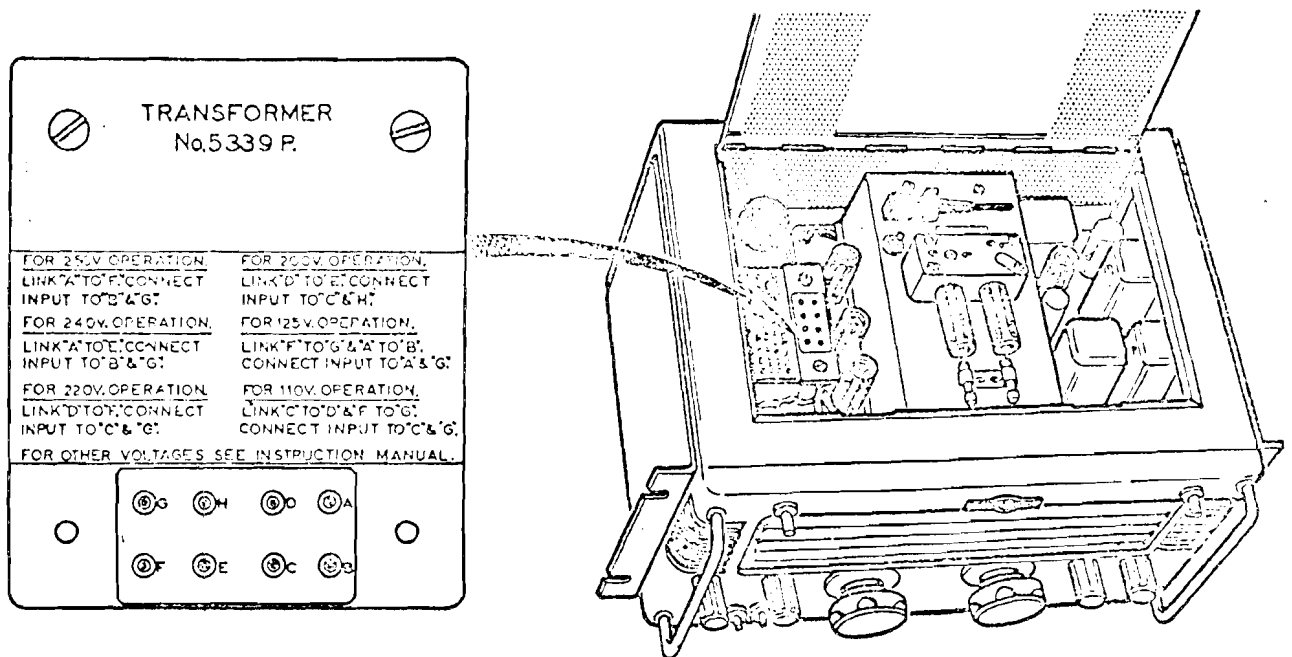

Fig. 4
(1) With the supply disconnected, locate the voltage adjustment panel shown in Fig.4 and remove the transparent cover plate.